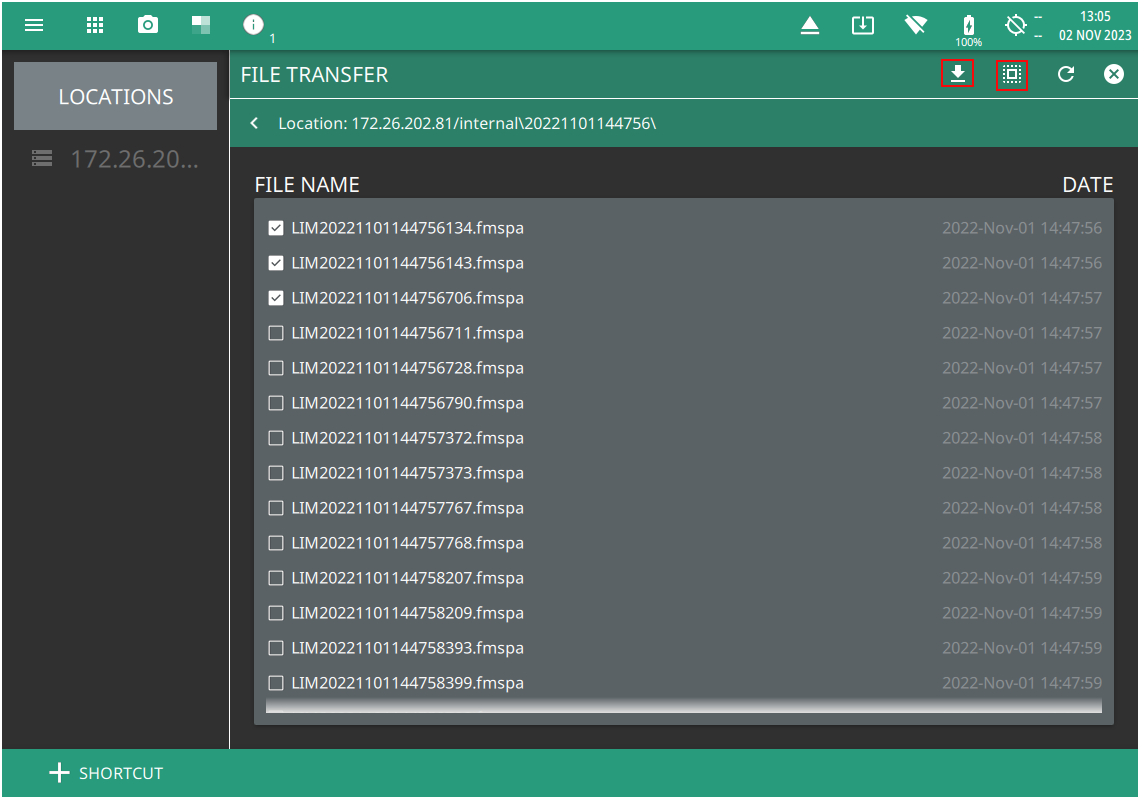

Figure A-7. File Transfer Menu
2. Click FILE TRANSFER to view the list of internally saved files for e.g. screenshots. See Figure A-7.